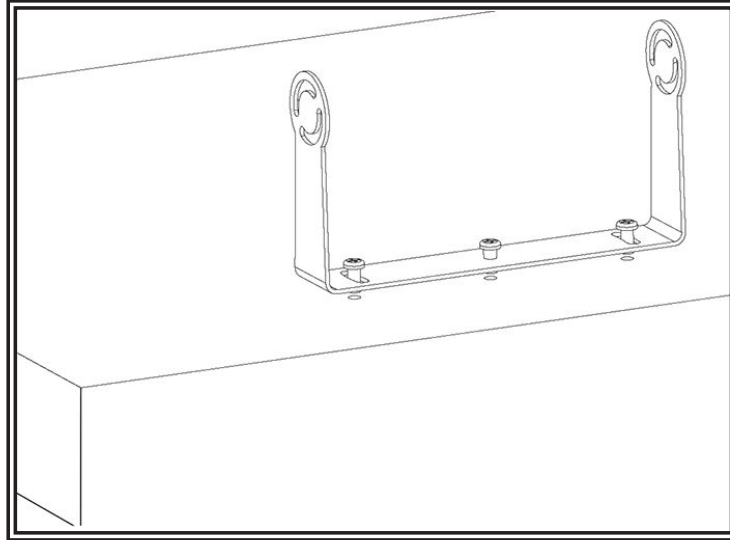

Figure 3
1. Select suitable position on vehicle and fix the U-support bracket with screws (Figure 3)